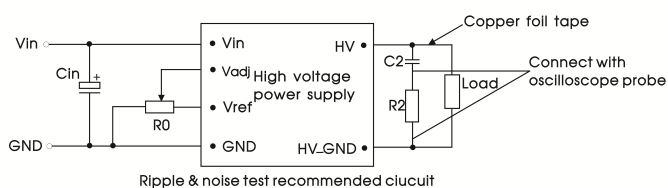
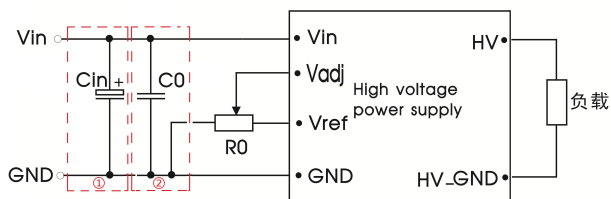

Fig.4 Ripple and noise test recommended circuit
Fig. 5 EMC compliance circuit
① Please refer to fig.4 for the test method of ripple and noise, the product is working by the linear power source;
② When the Vadj voltage is greater than or equal to the over-voltage protection voltage point of Vadj, the product without output;
③ Vadj voltage can not exceed its maximum allowable voltage of 10V, otherwise the product will be permanently damaged.
The output voltage of the product can be adjusted by an external circuit. There are two adjustment methods, as shown in Fig.4. The relationship curve between output voltage of the product and control voltage is shown in Fig.5. Output ripple can be further reduced by connect the RC filter on the output end of the product.
Notes: For EMC tests we use Part ① in Fig. 5 for immunity and part ② for emissions test. Selecting based on needs.